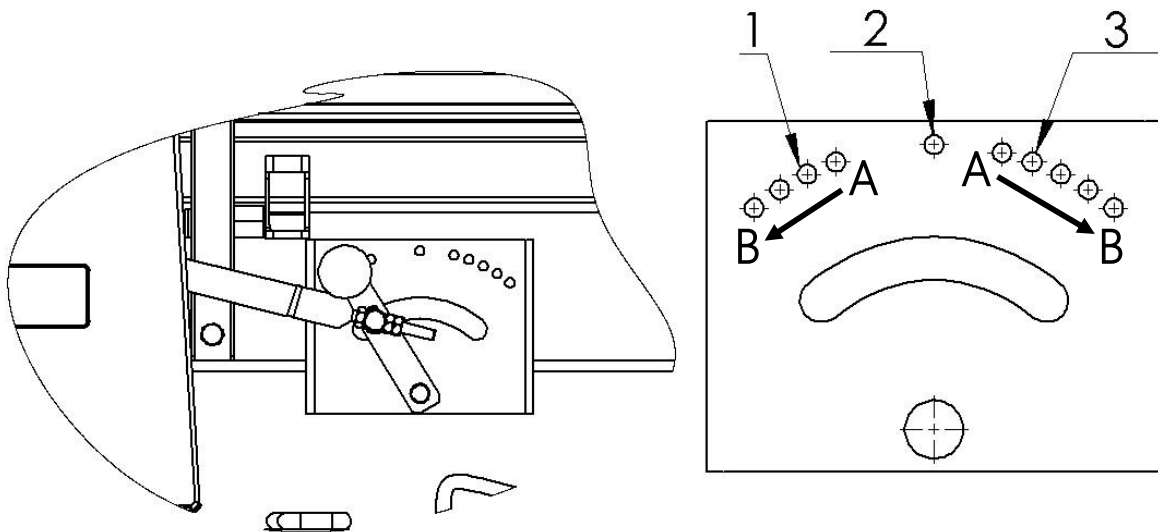

Figure 13. Conveyor's adjusting lever.
- set travel speed (fig. 13). Remember that only the first 3 holes for unloading (item 3, fig. 13) serve for spreading. The last two holes, with the greatest speed, serve for unloading when the spreader is set up for work as a self-dumping transporter.